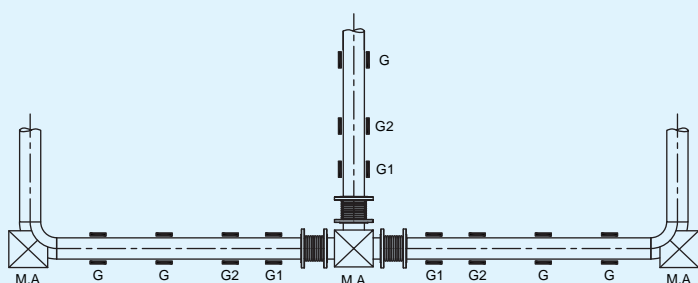

Figure 1.3
Figure 1.3 typifies good practice in the use of Expansion Joints to absorb axial pipe line expansion in a pipe line with a branch connection. The anchor at the junction, which in this case is a tee, is a main*anchor (M.A) designed to absorb the thrust from the Expansion Joint in the branch line. Note the nearness of each Expansion Joint to an anchor, the closeness of each first alignment guide (G1), the spacing between the first alignment guide and the second alignment guide (G2) and the spacing of intermediate guides (G) along the balance of each pipe section.